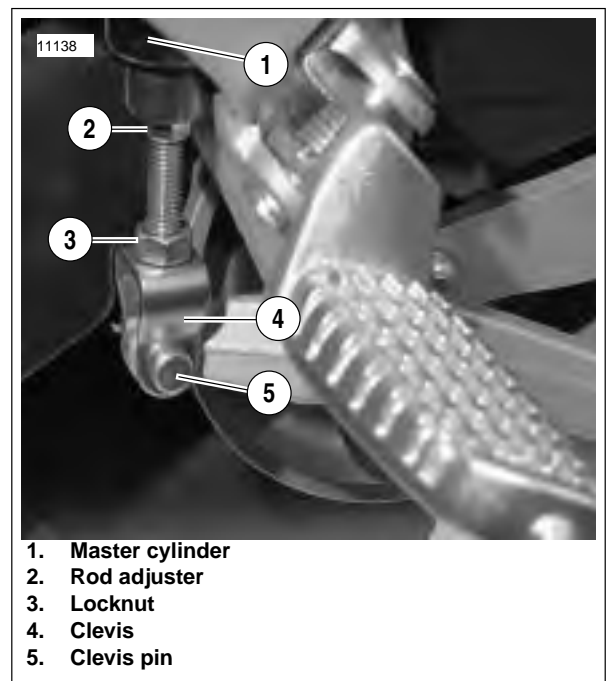

Figure 1-14. Rear Brake Pedal Pushrod Adjustment
1. See Figure 1-14. Inspect for minimum and maximum brake rod engagement in brake clevis (4). Adjust as required.
- a. See Figure 1-14. Loosen locknut (3) while holding rod adjuster (2). Move locknut away from top surface of clevis (4).
- c. Thread locknut (3) flush against top surface of clevis and tighten to 130-173.5 **in-lbs** (14.7-19.6 Nm).